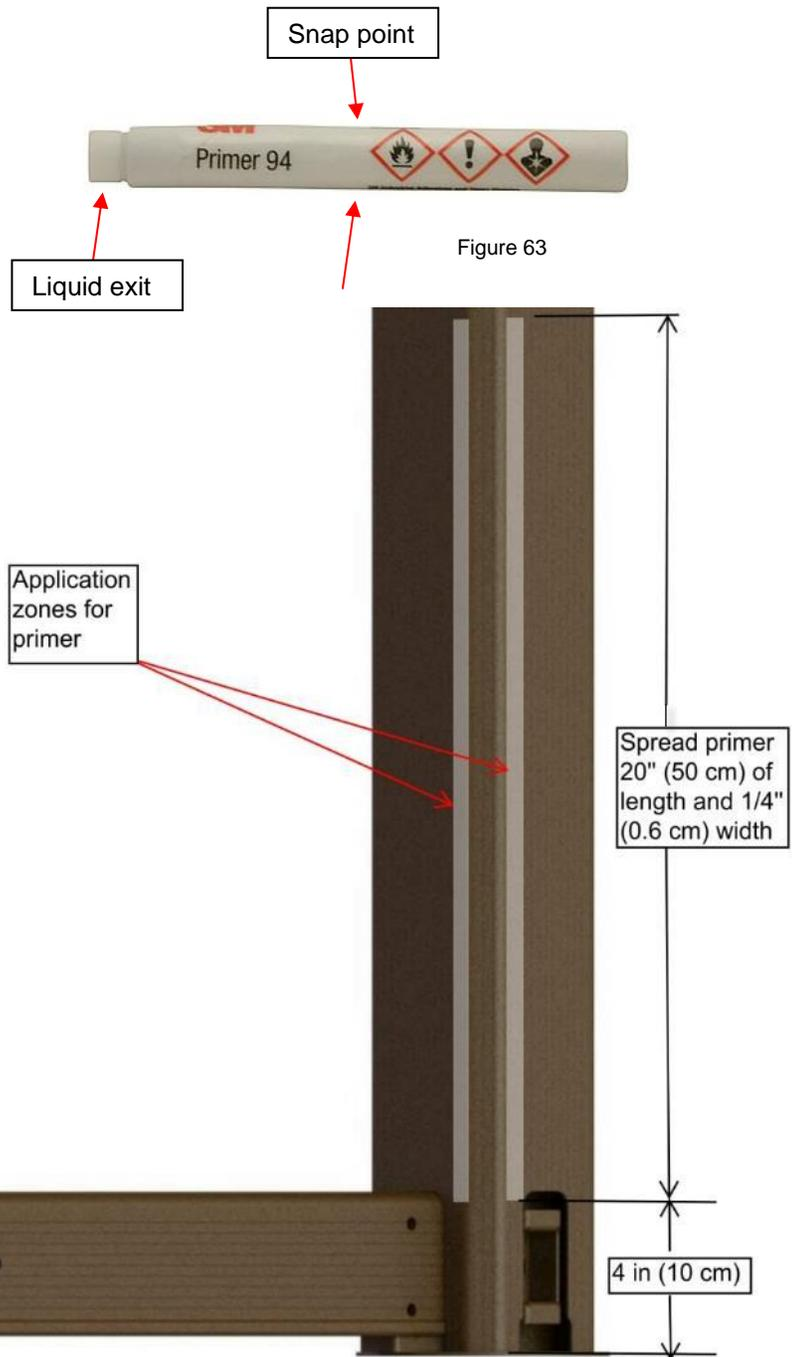
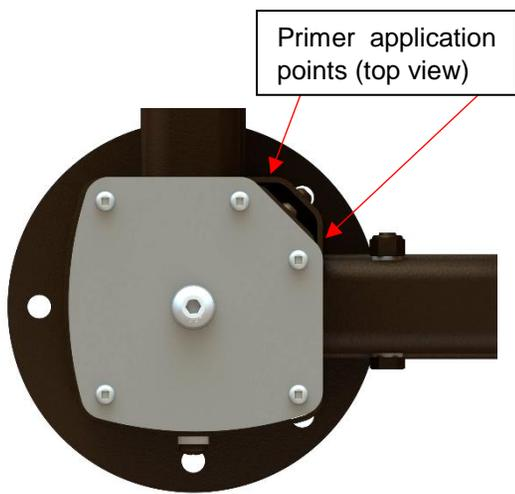

Figure 63
Figure 65
- 8) Use the supplied alcohol swab and rub it on the surface of the outer sleeve positioned on the opposite corner of the light button to clean the surface. (Figure 64 and Figure 65). Wait two minutes for the alcohol to dry.
- 9) Apply the primer on the inside corner at the indicated areas. Refer to Figure 64 and Figure 65. The wire guard can also be held in place and taped off around its perimeter to mark off the application area. **Important:** Failure to apply the primer will result in the wire guard unsticking over a short period of time. The primer will act as the optimal bonding agent for the paint. To use the primer, snap the bottle in the middle for the liquid to come out. (Figure 63)